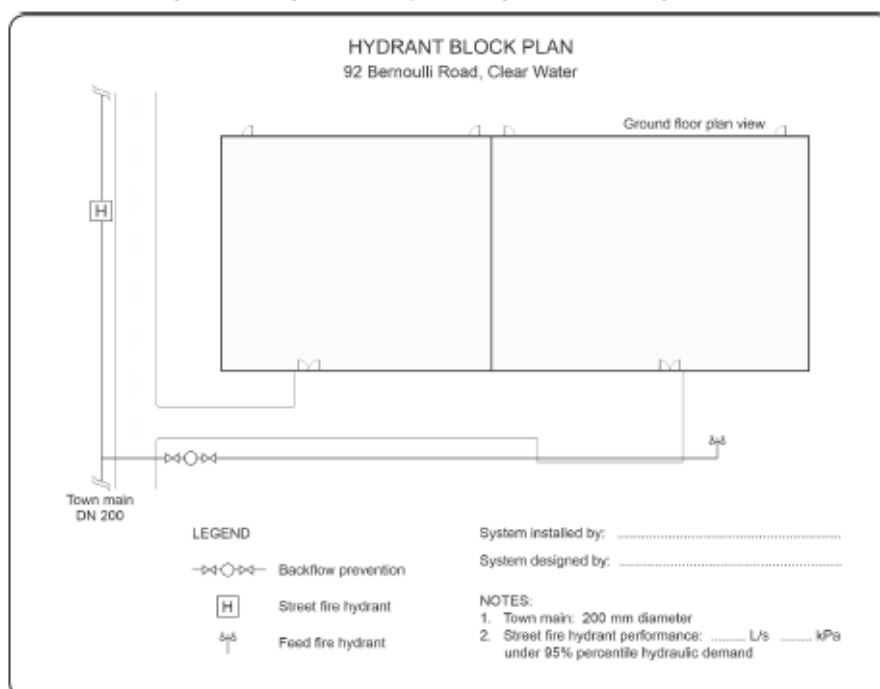

Figure 8 Example of fire hydrant system block plan
- 8.1 A fade and weather resistant fire hydrant system block plan (see Figure 8) is to be permanently affixed in a readily visible position at: